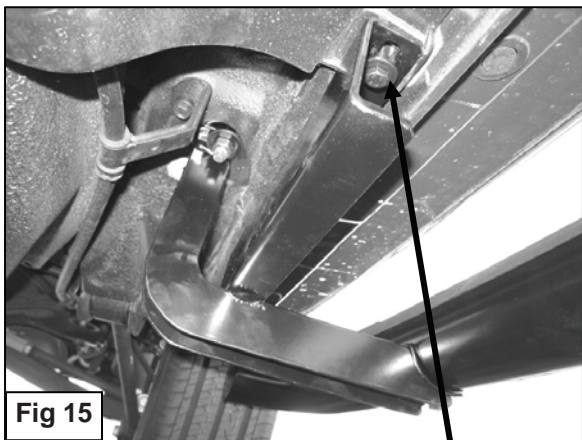

Fig 15
17. Attach the front end of the Mounting Bracket to threaded hole in the side panel using the included (1) 6mm x 25mm Hex Bolt, (1) 6mm Lock Washer, and (1) 6mm Flat Washer (**Figure 15**).